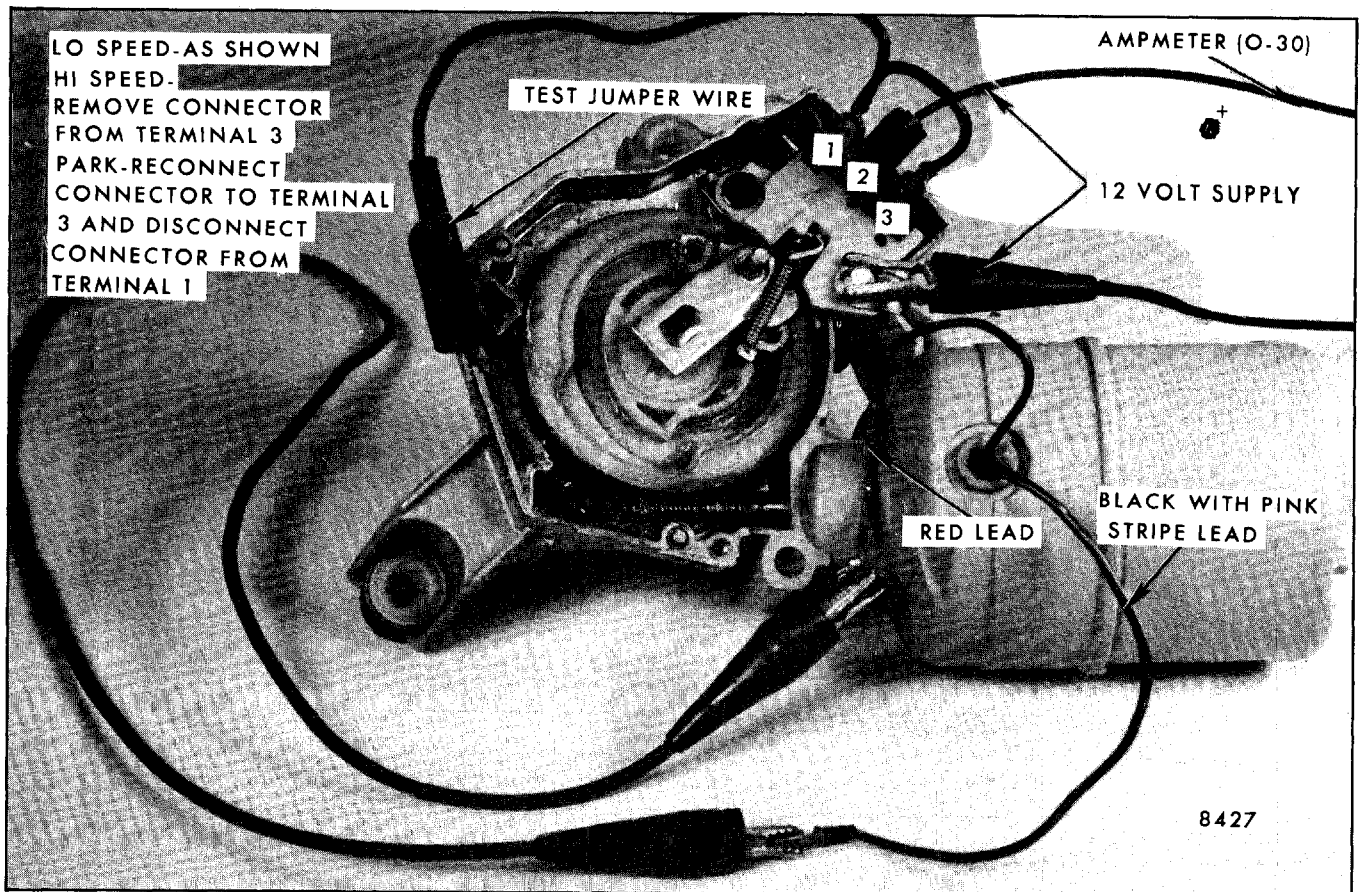
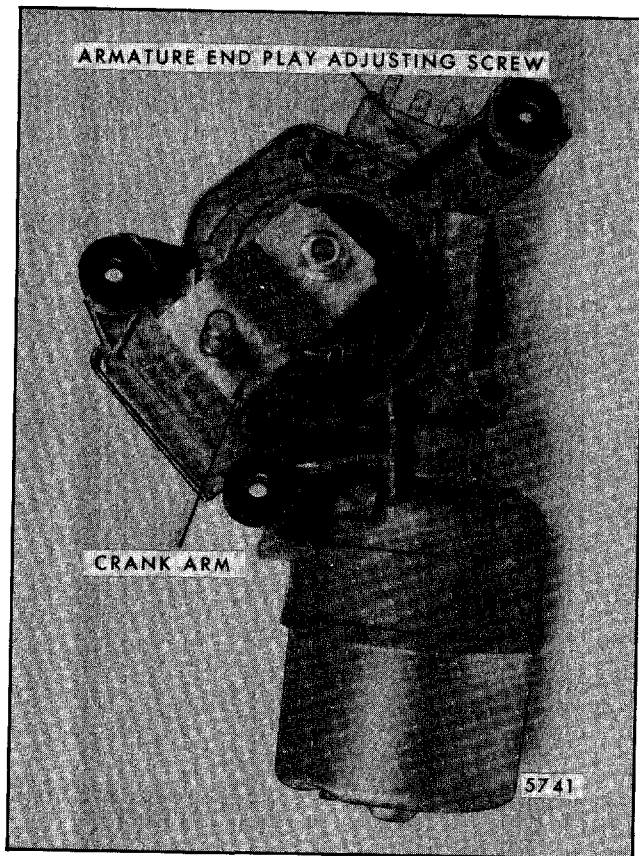

Fig. 2-108-Modified Pulse Motor Bench Operation Test
Fig. 2-117-Crank Arm in Park Position
2. If wiper gear drive pawl is in full park position (Fig. 2-111), operate the motor as required to move pawl out of relay slot (Fig. 2-108).
6. Refer to Figure 2-108 and operate wiper to park position, then reinstall washer pump. Refer to reassembly of washer to wiper gearbox (Fig. 2-111).
7. Refer to Figure 2-108 and operate wiper to park position; then position crank arm on output shaft flat so that it points in the direction shown in Figure 2-117. Next, install crank arm retaining nut fingertight.